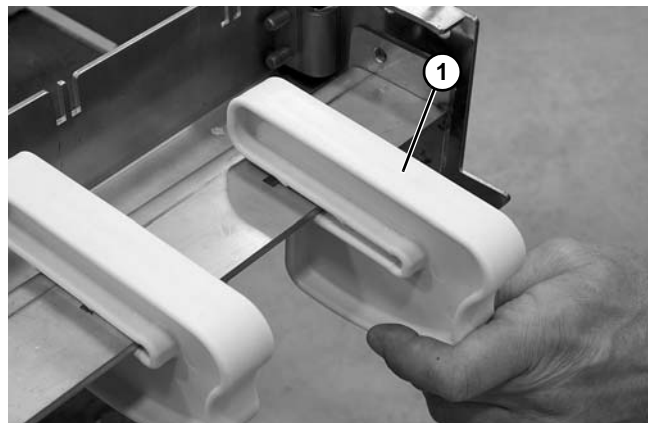

Figure 69
5. Remove and replace belt shoe if worn (Figure 69, item 1).